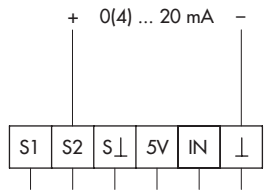

Fig. 5-4: Electrical connection
- Perform the electrical connection depending on the application according to Fig. 5-4.